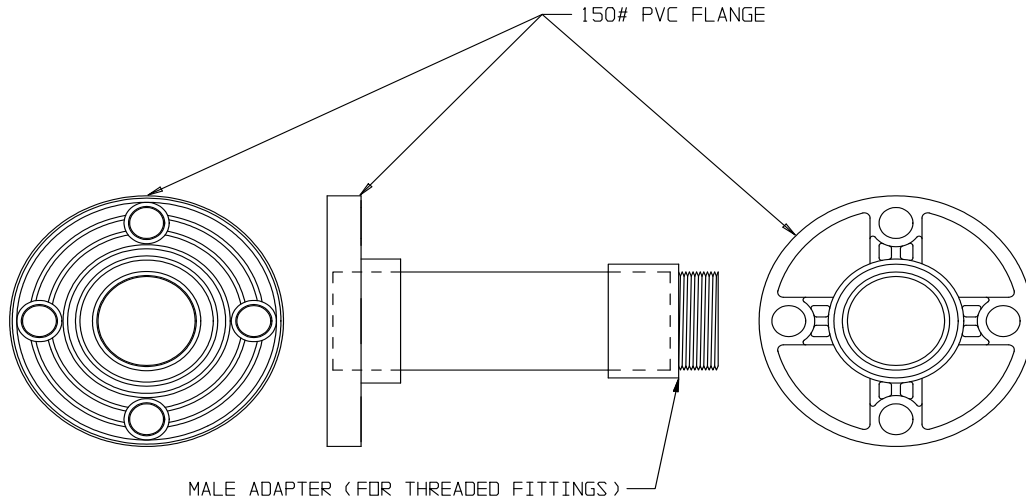

Figure 7.10
7.10.1 Standard flange adapters are constructed from PVC or CPVC and may be purchased for solvent weld socket fittings or threaded fittings. Flange adapters for threaded fittings are provided with loose male adapter to allow the customer to adjust adapter length and flange position to match the piping at the installation. Refer to Figure 7.10 for an illustration of a flange adapter.